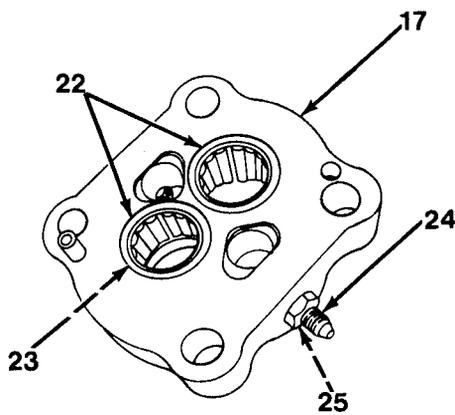
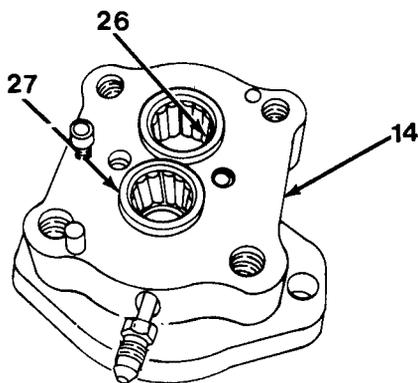

Figure 16-12
Figure 16-13
17. Remove two bearings (22) and ring seal (23) from port end cover (17, Figure 16-12).
18. Remove adapter (24) and O-ring (25) from port end cover (17).
19. Remove two bearings (26) and ring seal (27) from shaft end cover (14, Figure 16-13).
3. Install ring seal (27) and two bearings (26) in shaft end cover (14, Figure 16-13).
4. Install ring seals (23) and two bearings (22) in port end cover (17, Figure 16-12).
5. Install O-ring (25) and adapter (24) in port end cover (17).